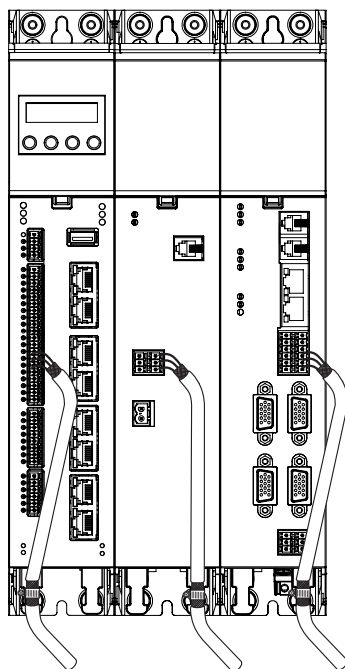

Fig. 3.1 Example shield connection control connections
- Strip the cable shields to the required length and use the shield lugs on the respective plug-in connectors for establishing contact at the components (see Fig. 3.1). Lay the other part of the cable shield with the greatest possible surface area on the PE rail (main earth) or the panel.